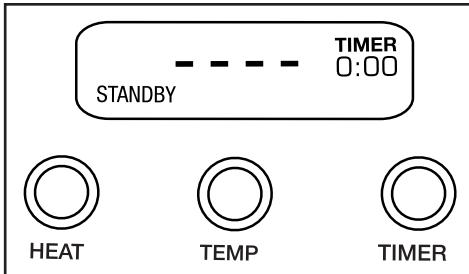

Figure 1
- 120, 208 and 240 volt units are supplied with a molded 3-prong grounding-type plug and should be used in combination with a properly connected grounding-type outlet, as shown in Figure 1.
NOTE: The Induction Range requires induction-ready cookware. If the pan is not induction ready, it will not register on the induction range. The LCD display will show “-----” and “STANDBY” will flash (as seen in figure 1) when attempting to select a heat mode without an induction-ready pan on the glass cooking surface. The unit will automatically shut off after 60 seconds of not having an induction-ready pot/pan.